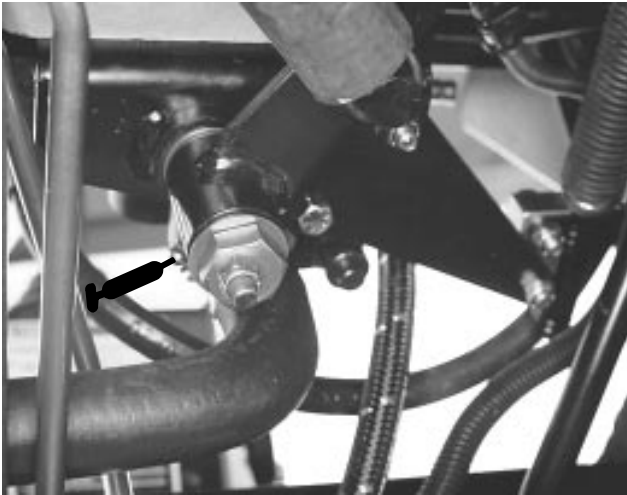

Figure 26
1. The grease fittings that must be lubricated are: Lift arm pivot (2), lift cylinder (4), brake arm pivots (2) (Fig. 21); brake pivot (1), brake pivots (2) (Fig. 22); traction pedal pivot (1) (Fig. 23); engine to pump drive shaft (2) (Fig. 24 & 25); traction adjuster (1) (Fig. 26); P.T.O. Bearing (Fig. 27).